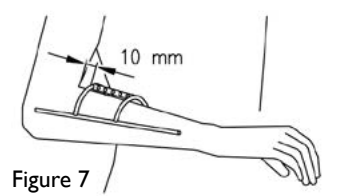

Figure 7
1. Adjust the shape of the forearm brace to the shape of the forearm. Keep the forearm horizontal and place the forearm brace in a position 10 mm from the upperarm, see figure 7. Use the Ambroise tools to prevent product damage. They help to effectively do the job.